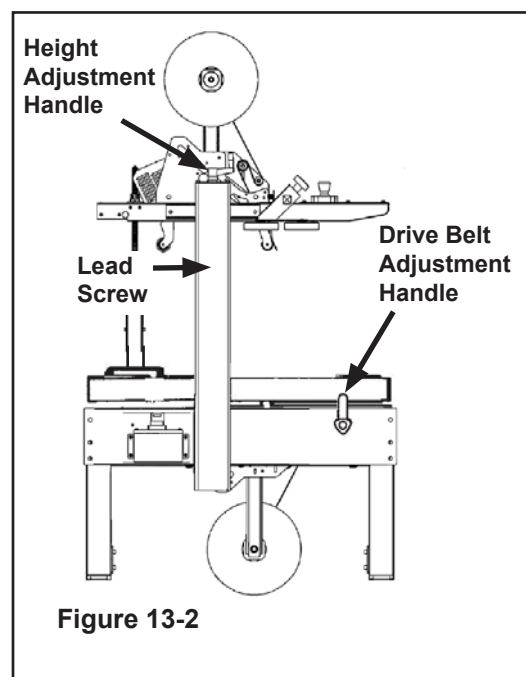

Figure 13-2
- Synthetic Silicone Spray may be used on Lead Screw and Adjustment Handle (**Figure 13-2**).